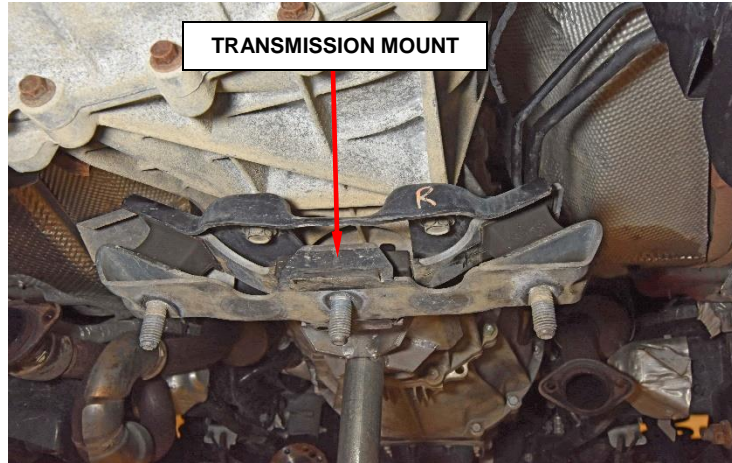

Figure 10 – Transmission Mount
15. Remove the transmission mount (Figure 10).
22. Install the transmission mount and tighten the bolts to 54N·m (40ft. lbs.) (Figure 10).